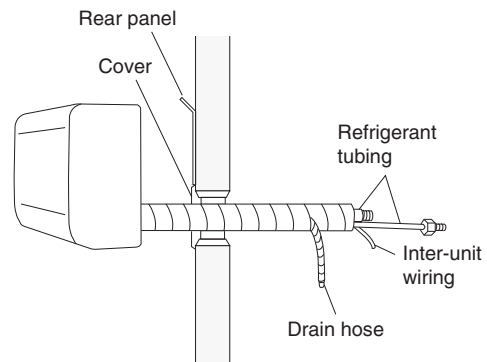

Fig. 3-94
- (1) Shape the refrigerant tubing so that it can easily go into the wall hole. (Fig. 3-94)